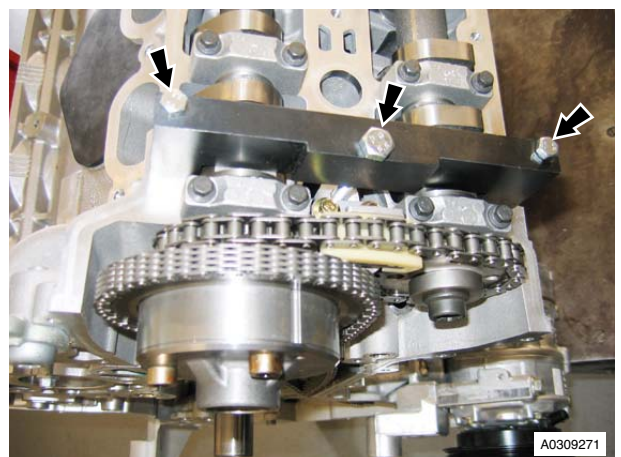

Figure 7
19. Remove the three bolts that attach tool (303-530) to the cylinder head. Remove the special tool (refer to Figure 7).